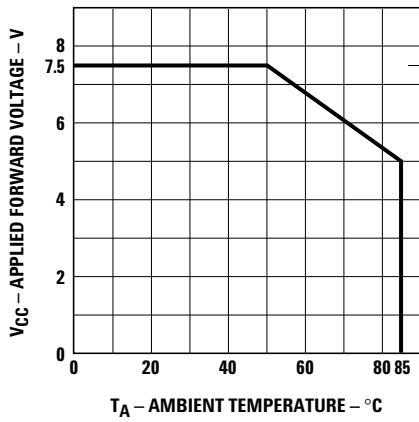

Figure 3. Maximum allowed applied forward voltage vs. ambient temperature  $R_{\theta JA} = 175^\circ\text{C}/\text{W}$ . 5 volt devices.
2. Derate from TA = 50°C at 0.071 V/°C, see Figure 3.